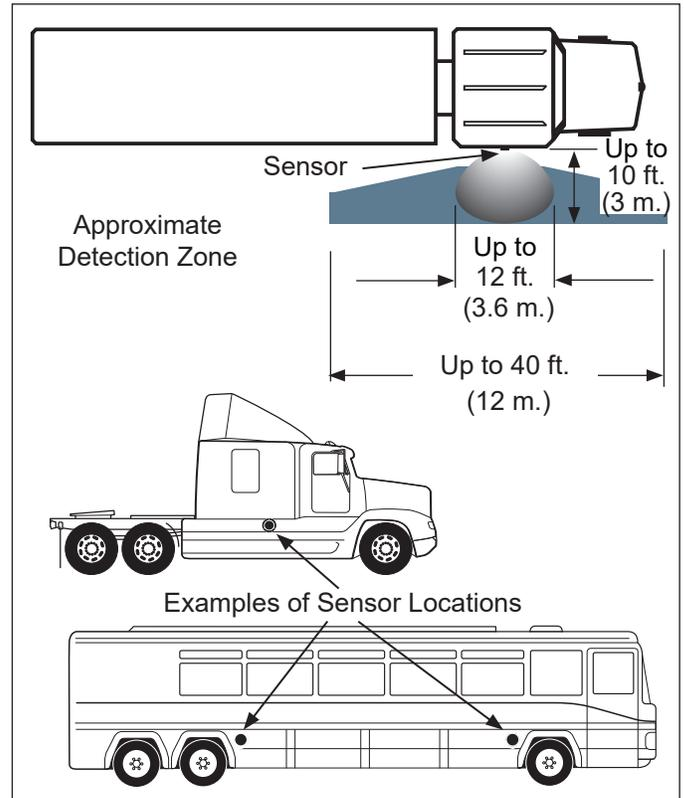

Figure 2 - Bendix BlindSpotter Radar Sensor Detection Zone and Example Locations
Used in conjunction with mirrors and other instrumentation to maintain safe operation of the vehicle, the radar sensor(s) provide up to a ten foot by forty foot detection zone. See Figure 2.
The effective range is approximately ten (10) feet out from the vehicle, and the detection zone depends on the mode of operation of the sensor. See *Figure 2*.